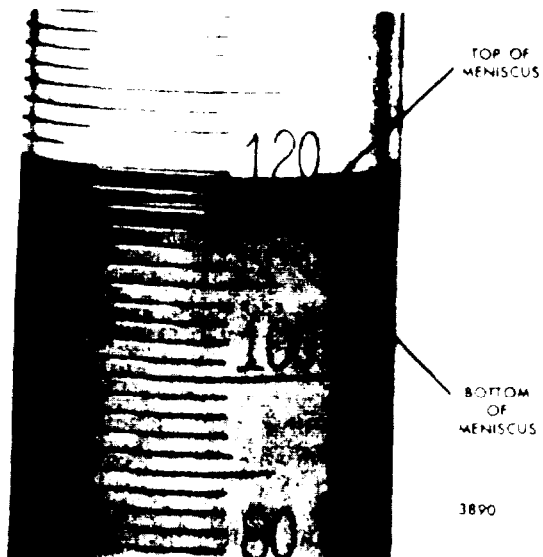

Figure 11C-74. Checking Fuel Output
14. Hook the torsion retraction spring to the special cover screw and stop lever (see Figure 11C-61 on page 11C-36).
1. Operator Errors: If the column of liquid in the vial is read at the top of the meniscus instead of at the bottom, a variation of 1 or 2 points will result (see Figure 11C-74 on page 11C-46).